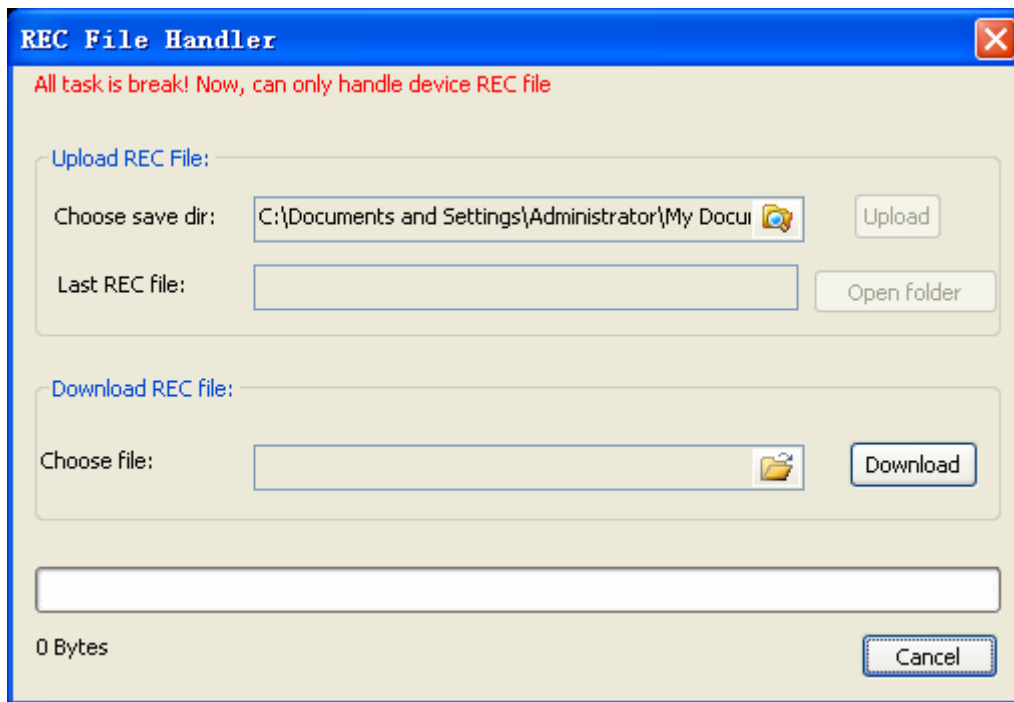

Fig.3-19
Select "Yes (Y)", the pop-up menu REC file processing. As shown in Figure 3-19: